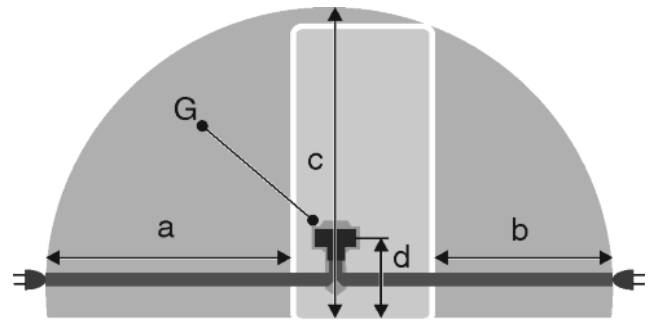

Fig. 26
- The socket is outside the back of the appliance area in the specified area *Fig. 26 (a, b, c)*.
- ▶ Insert the appliance plug *Fig. 26 (G)* into the back of the appliance. Ensure that it clicks into place.